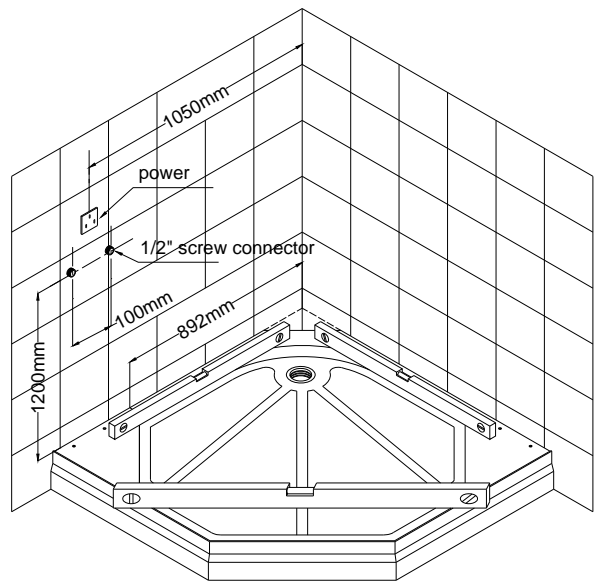

Fig 4
4. Move the **Tray (06)** to the required position. Check the level of the tray, alignment of the drain pipe and the drain (Fig 4). If drain pipe need to be adjusted do it now. If tray in not leveled, move tray out and re-level floor. Place tray back and check it again.
5. Install the water outlet and power supply box. You need 1/2" minimum water supply lines for hot and cold water with shut off valves. **Power supply is required 20A 220v dedicated #12 3/1 wire line with GFCI breaker.** (Note: Figure 4 shows water and power location for the control panel to be installed on the left side of the tray.)
Your unit is reversible for right or left hand installation. If the control panel is planned to be on the right side of the tray, the location of the water outlet and power supply box should also be moved to the right side of wall. See Fig 4 for details.